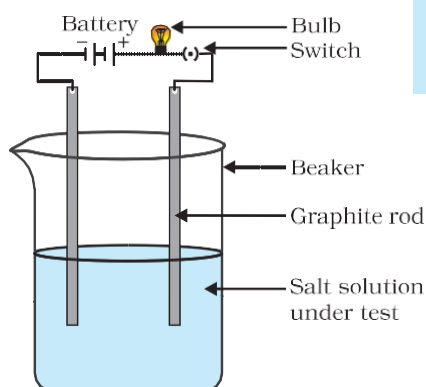

Figure 3.8 Testing the conductivity of a salt solution
- Make a circuit as shown in Fig. 3.8 and insert the electrodes into a solution of one salt. What did you observe? Test the other salt samples too in this manner.